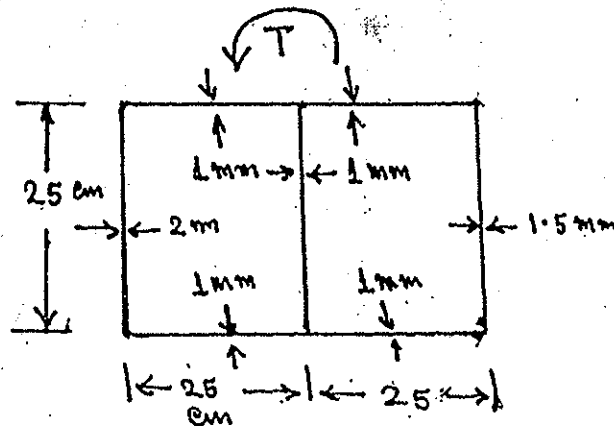

Fig. 4
- (b) Find the shear flow and twist per unit length of the two cell tube made of aluminium as shown in the fig. 4 and subjected to a Torque 75000 N-cm.